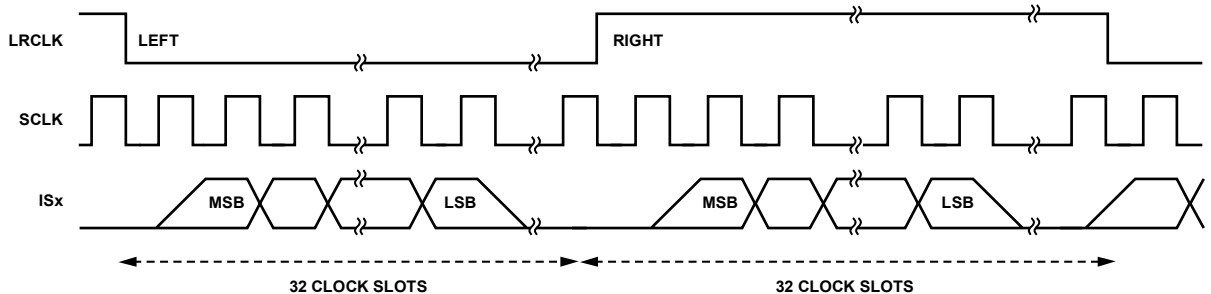
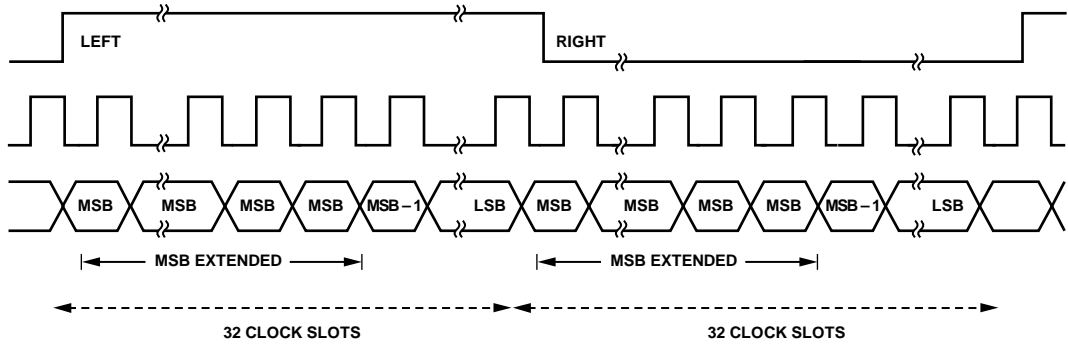
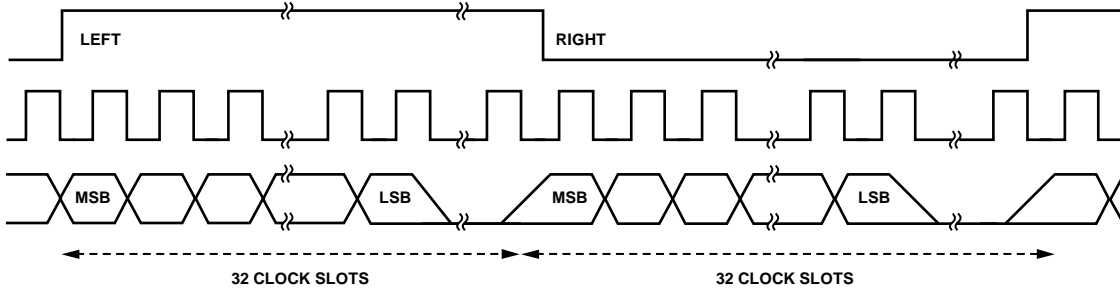

Figure 17. Timing Audio Data Output in I2S Mode
Figure 18. Timing Audio Data Output in Right Justified Mode
Figure 19. Timing Audio Data Output in Left Justified Mode
- Linear L-PCM audio data is output on the audio output pins if the part received audio sample packets with L-PCM encoded audio data. Each audio output pin carries stereo data that can be output in I2S, right justified, or left justified mode (see Figure 17, Figure 18, and Figure 19). The I2SOUTMODE[1:0] control must be set to 0x0, 0x01, or 0x2 to output I2S, right justified, and left justified respectively on the audio output pins.
- I2SOUTMODE must be set to 0x0, 0x01, or 0x2 for I2S, right justified, and left justified format, respectively (see Figure 17, Figure 18, and Figure 19).
- OVR\_MUX\_HBR is set to 1, MUX\_HBR\_OUT is set to 0, and I2SOUTMODE[1:0] is set to 0x0 for an I2S mode binary stream (see Figure 17).
- OVR\_MUX\_HBR is set to 1, MUX\_HBR\_OUT is set to 0, and I2SOUTMODE[1:0] is set to 0x1 for a right justified stream (see Figure 18).
- OVR\_MUX\_HBR is set to 1, MUX\_HBR\_OUT is set to 0, and I2SOUTMODE[1:0] is set to 0x2 for a left justified stream (see Figure 19).